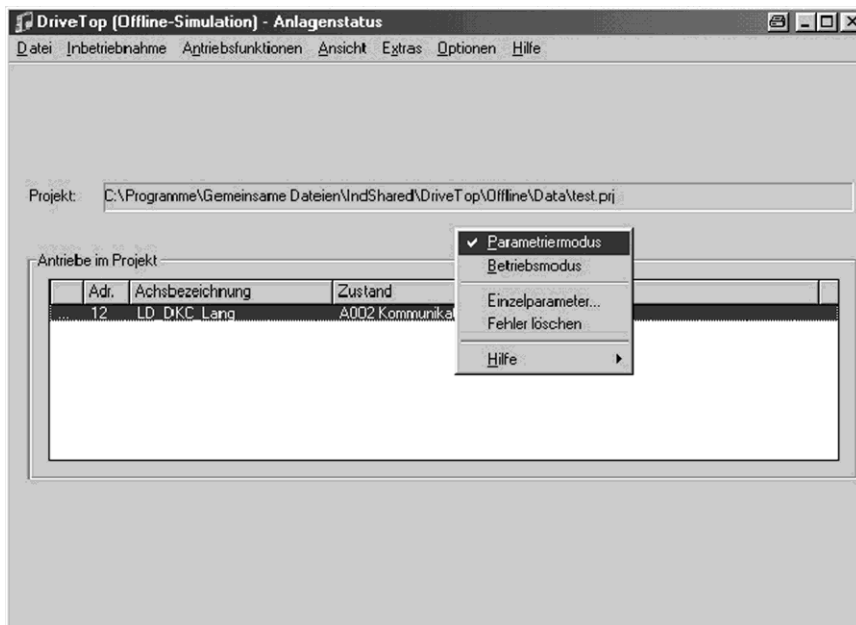

Figure 12: Selecting the parameterizing mode “Parametriermodus”
- Use the right mouse button to change to the parameterizing mode “Parametriermodus” (see Figure 12).